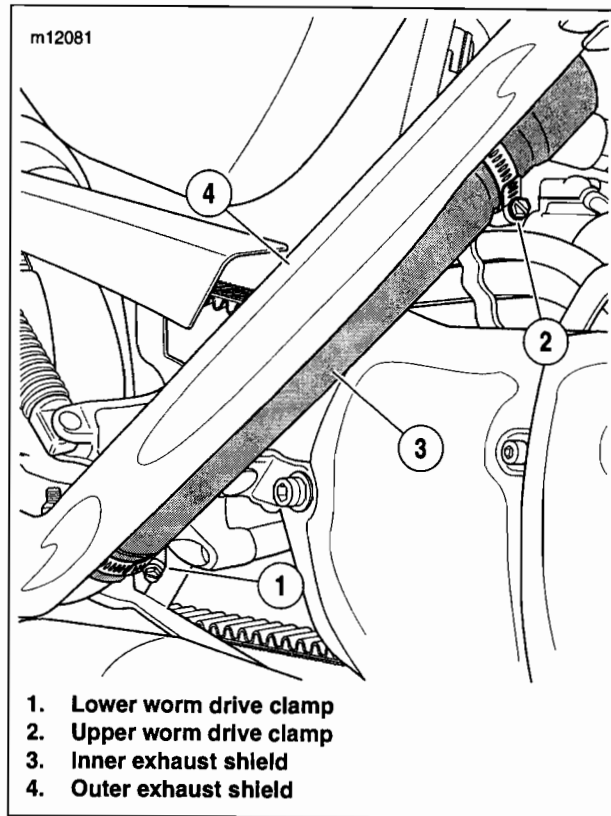
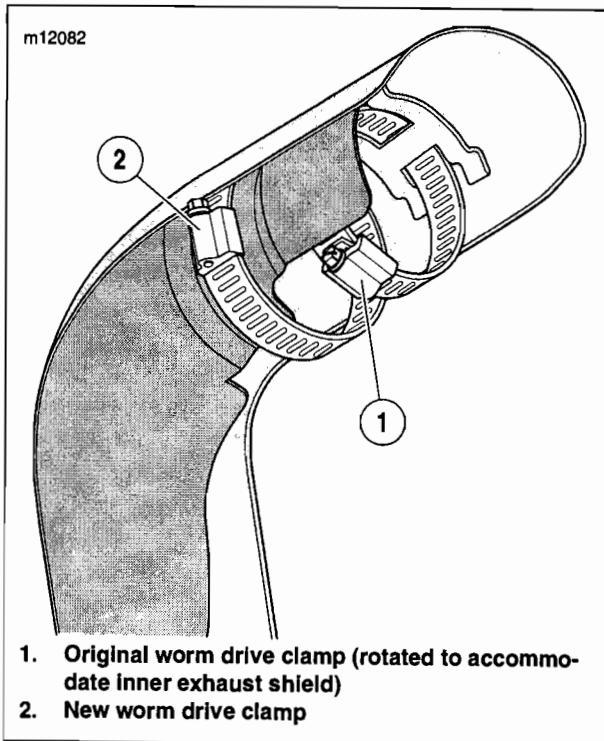

Figure 1. Inner Exhaust Shield Installation on Rear Exhaust Pipe
Figure 2. Upper Worm Drive Clamp Installation (2006 Models Only)
See Figure 1. If the vehicle is equipped with an original rear exhaust pipe (header) which does not have the inner exhaust shield installed, proceed to the installation instructions.
1. See Figure 1. Loosen the lower worm drive clamp (1) on the rear exhaust pipe.
2. Loosen the upper worm drive clamp (2).
- a. See Figure 2. On 2006 model vehicles, loosen the upper worm drive clamp. Rotate the clamp (1) to accommodate the installation of the inner exhaust shield as shown.
3. See Figure 1. Slide the bottom portion of the **new** inner exhaust shield (3) against the exhaust pipe and into the lower clamp. The clamp should rest on the indented portion of the inner exhaust shield.
- c. See Figure 2. On 2006 model vehicles, install a **new** worm drive clamp (Part No. 9955) on the indented portion of the inner exhaust shield. Tighten both upper clamps securely.
- d. See Figure 1. On 2007 model vehicles, install the upper clamp over the indented portion of the inner exhaust shield. Tighten clamp securely.